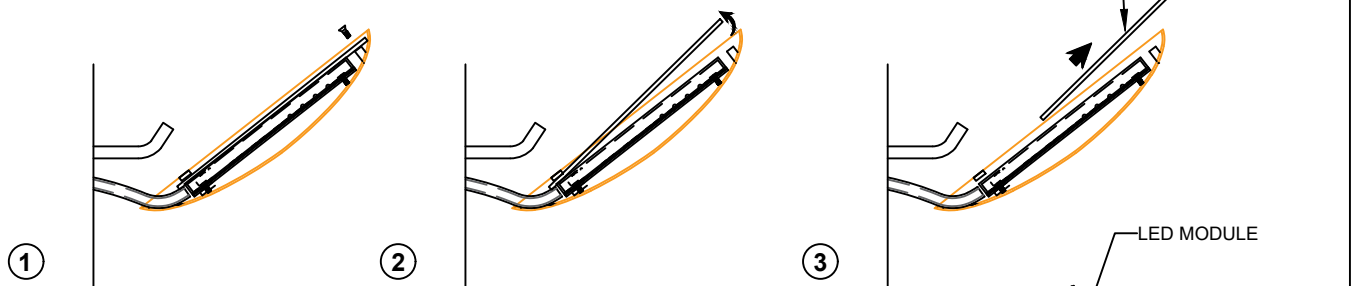

FIGURE: 1-1
STEP 2: Unscrew the acrylic diffuser and remove it carefully (see figure 1-1)